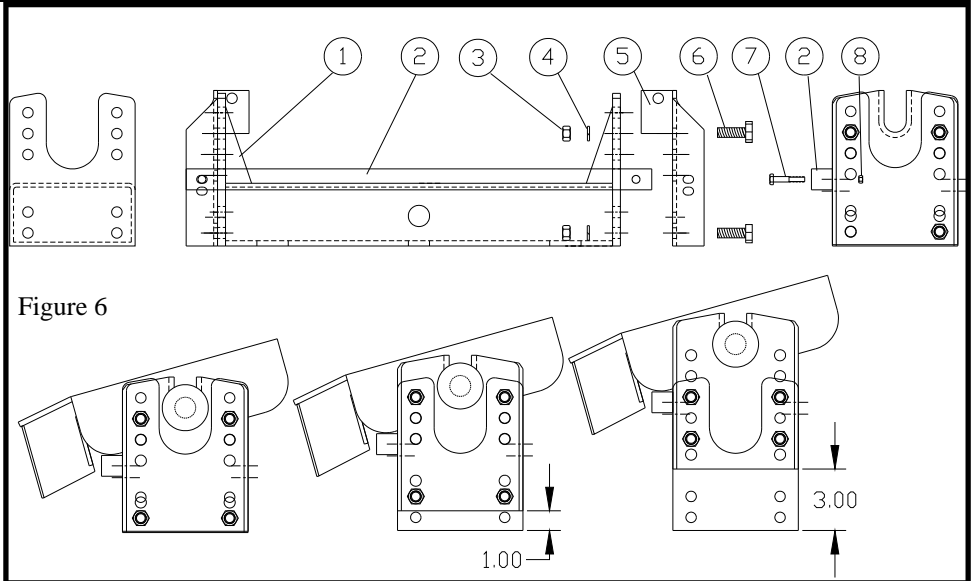

Figure 6
Refer to (Figure 6) when setting the desired height location. Fasten the Adjustable Bracket (5) using the widest possible hole locations as shown. Torque the 1/2" fasteners (3,4 & 6) to 75 foot pounds. **To avoid damage to this product do not bolt the Adjustable Bracket (5) higher than shown in (Figure 6).**